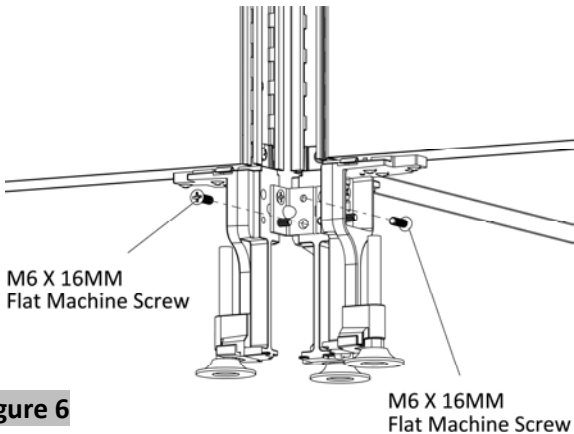

Figure 6
- 14.** Secure the base with two M6 X 16MM, Flat Machine Screws, (Figure 6).